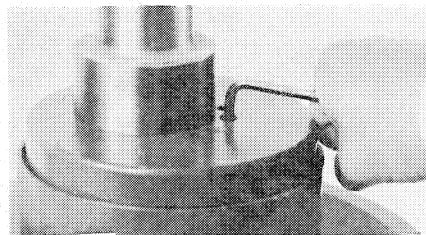

Fig. 4
4. Place MCS under arbor press (24" minimum throat required). Holding the arbor firmly against the outboard end cap, remove two remaining capscrews, (See Fig. 4). Allow sheave assembly to expand by relieving arbor press force. Reference **BOTH** springs with match-marks as in Step 2. Distinguish between the end cap and flange ends of springs as well as which is the outboard and which is the inboard spring.